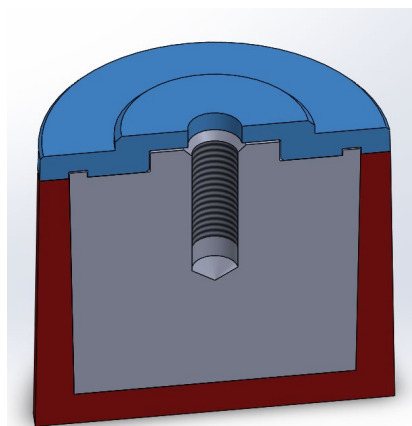

Figure 4. Push the wax cup out of mould cylinder.
4. Push the center part of the mould to squeeze the wax cup out of mould cylinder. You may need to use a rubber hammer to hammer gently (Figure 4).